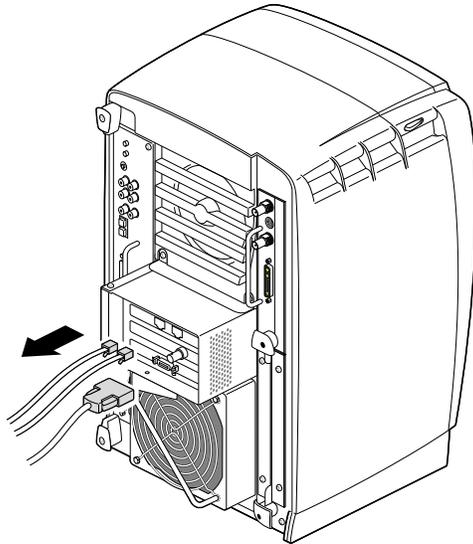

Figure 4-4 Removing the Cables from the PCI Module
5. Remove any cables from the PCI module, as shown in Figure 4-4.